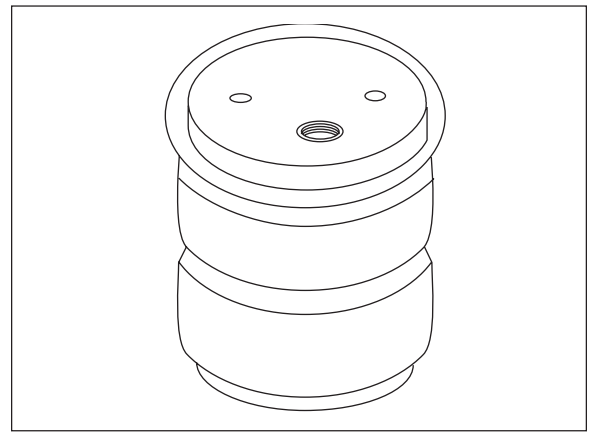

Figure 4
Set a roll plate (B) on both ends of the air spring (A). The radiused (rounded) edge of the roll plate will be towards the air spring, so that the air spring is “seated” in both roll plates (Fig. 4).